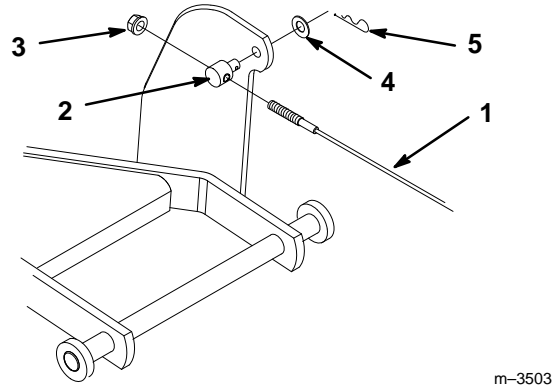

Figure 15
10. Connect the lift cable to the trunnion by threading the trunnion onto the lift cable (Fig. 15).
11. Attach the trunnion to the hole in the tiller lift cable mount with a washer and hairpin cotter (Fig. 15).
12. Secure the lift cable to the trunnion with a locknut (Fig. 15).